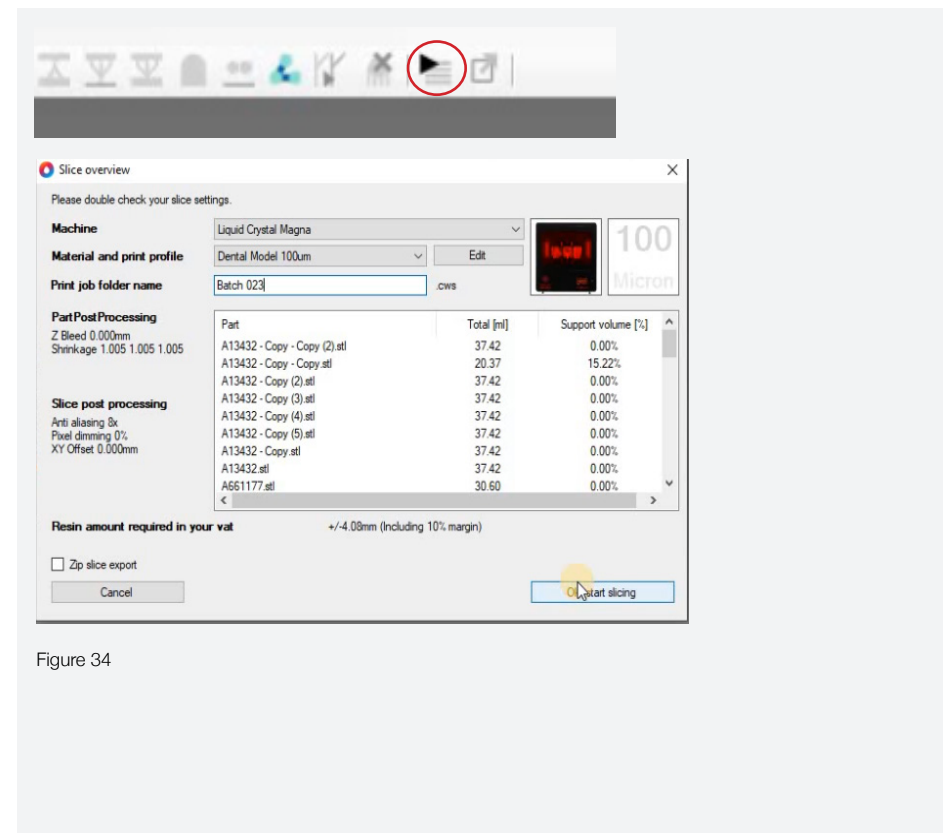

Figure 34
- In slice click 'Start Slicing' or click the 'Slice' icon. Select the location to save your file in and click 'Select Folder'. You can now rename the file. Click 'Ok Start Slicing' (figure 34).